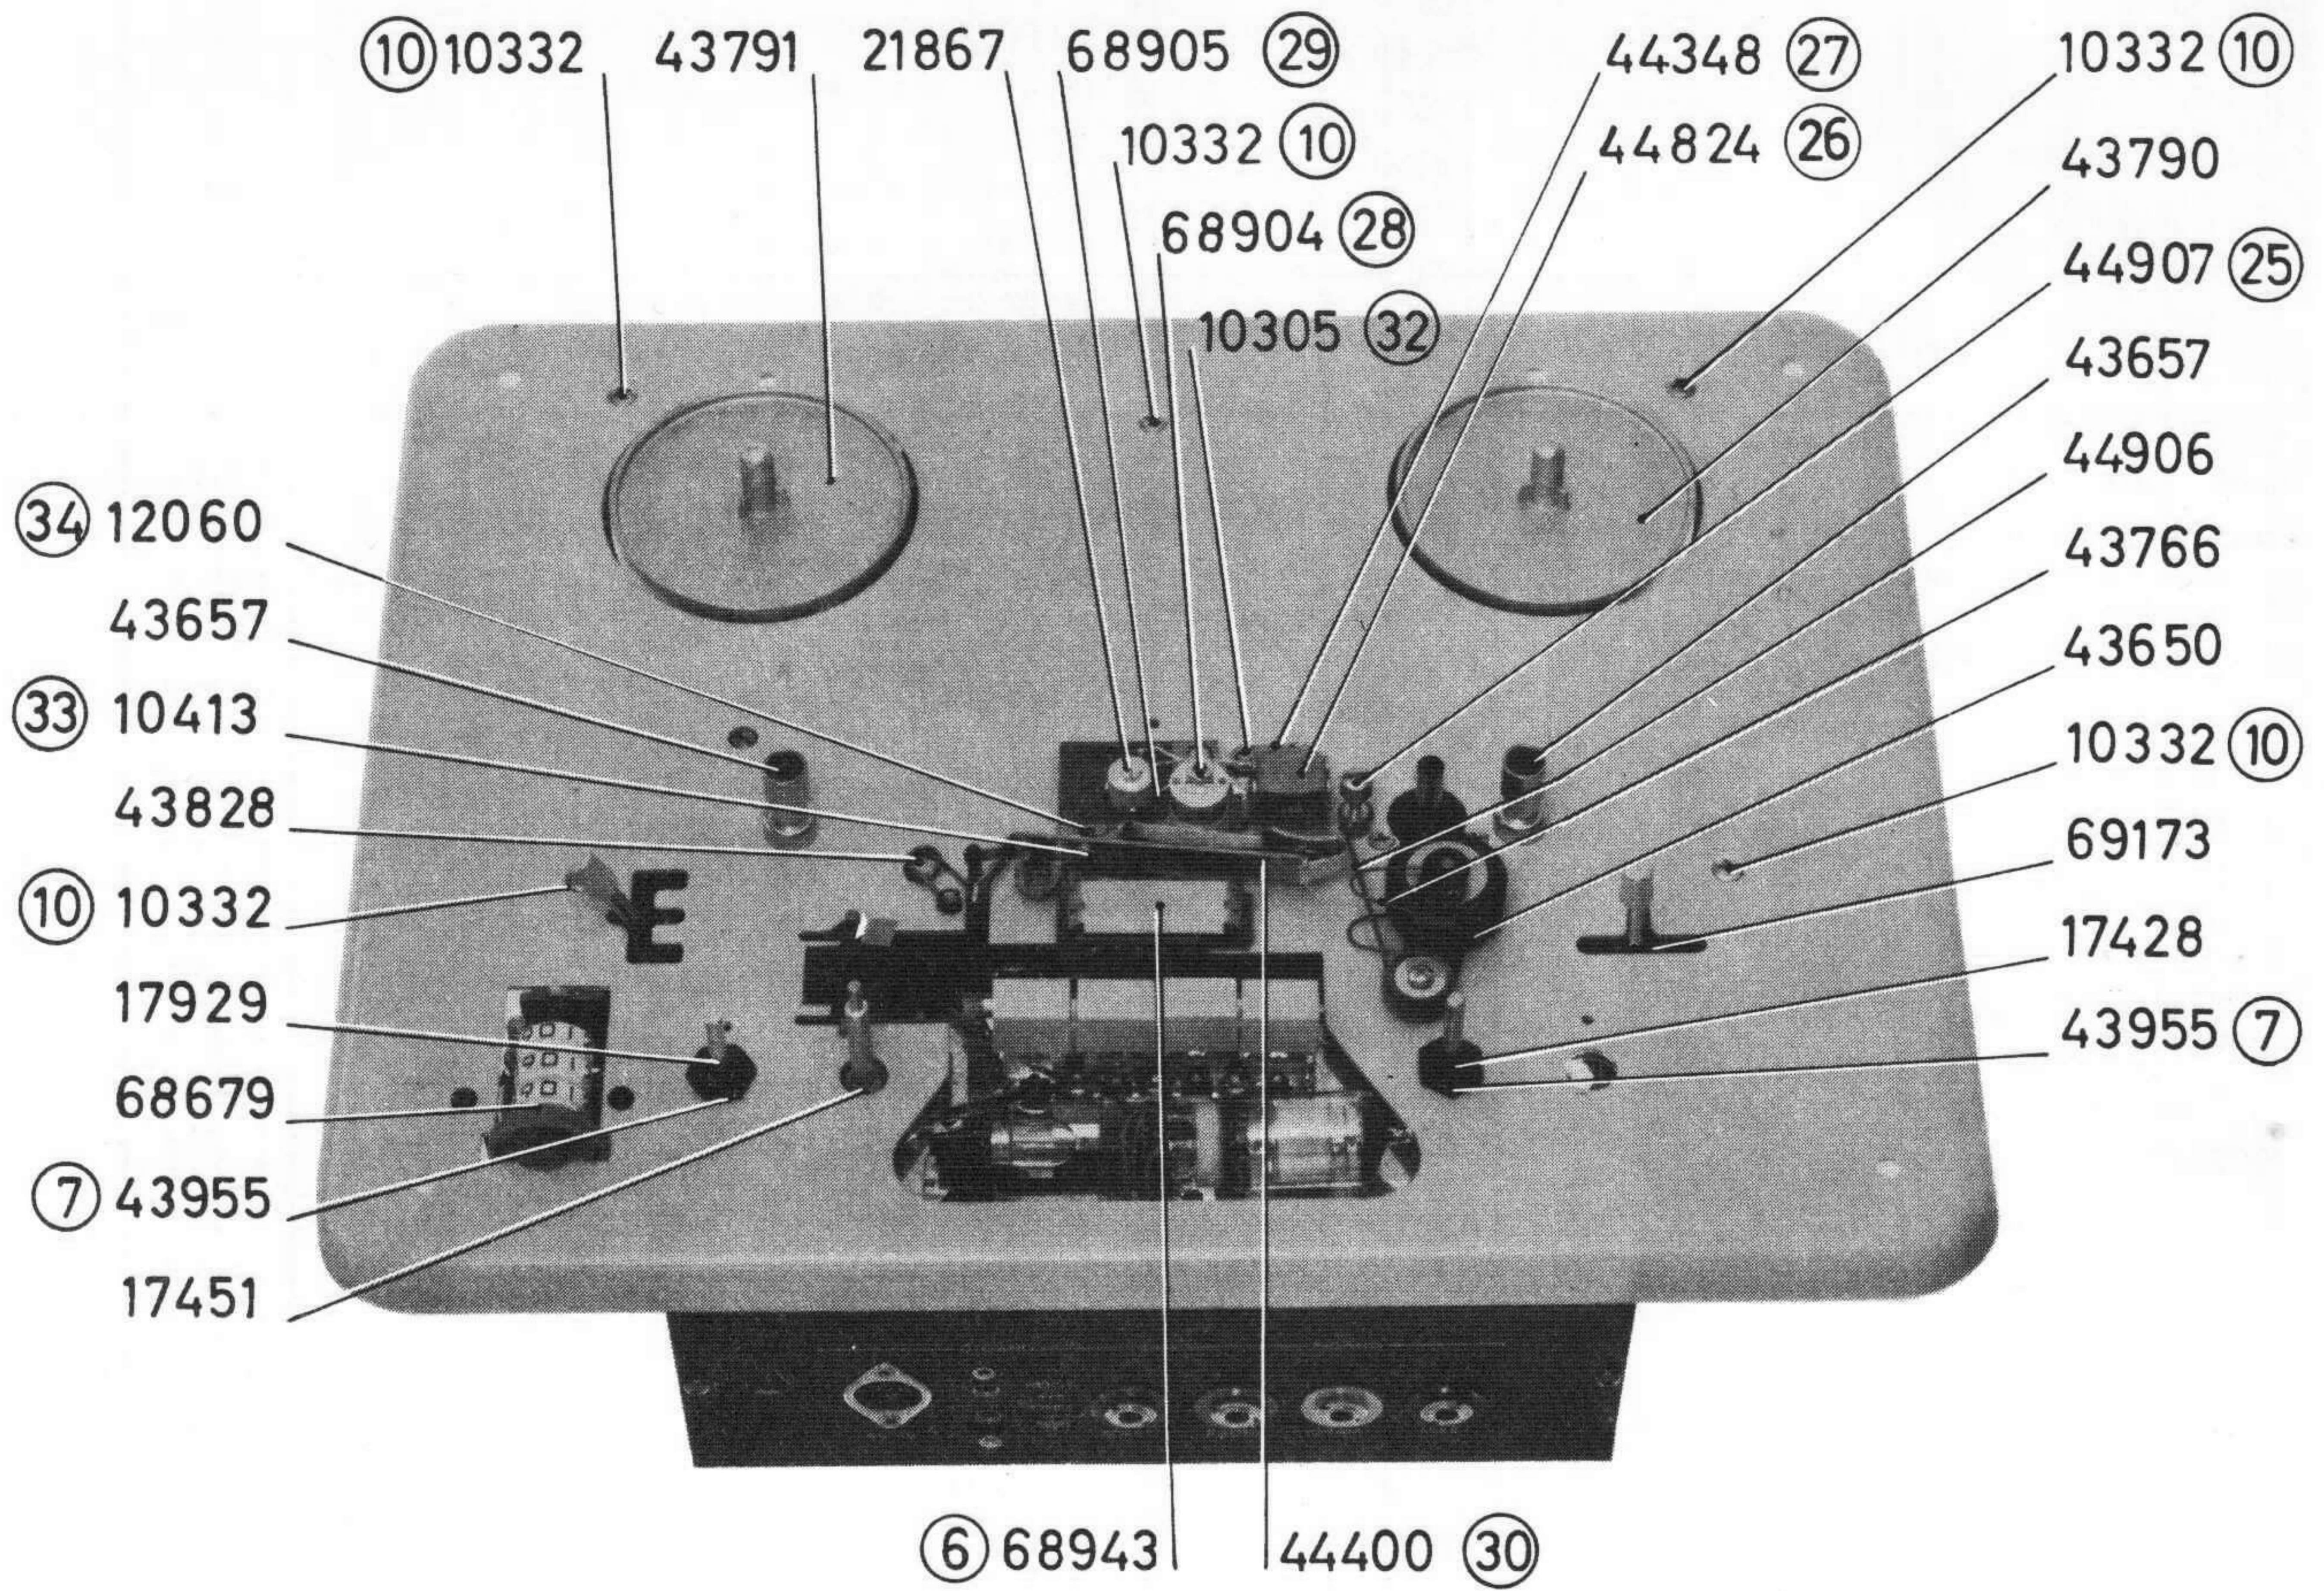

Fig. 2
4. BORTTAG UTLÖSNINGSTRÅDEN (5) VID TAPPEN. SE FIG. 2.
5. BORTTAG ANSLUTNINGSKONTAKTEN (6) FRÅN HUVUDENA. SE FIG. 2.
6. BORTTAG DE TVÅ MUTTRAR (7) SOM FASTHÅLLER FÖRSTÄRKAREN I BASPLATTAN. SE FIG. 2.
10. BORTTAG DE FEM KRYSSKRUVARNA (10) PÅ BASPLATTAN. SE FIG. 2.
- A) DEN JUSTERBARA BANDSTYRNINGEN (25) INSTÄLLES I HÖJDLED, SÅ ATT TONBANDET PASSERAR RAKT GENOM SAMTLIGA BANDSTYRNINGAR UTAN ATT PÅ NÅGOT STÄLLE TVINGAS VARE SIG UPP ELLER NED. SE FIG. 2.
TONHUVUDET (26) JUSTERAS I HÖJDLED, SÅ ATT DESS ÖVRE KÄRNPLÅT KOMMER ATT LIGGA PÅ SAMMA HÖJD SOM TONBANDETS ÖVRE KANT. DESSUTOM TILLSER ATT HUVUDETS FÄSTPLÅT (27) KOMMER PARALLELLT MED BASPLATTAN. MAX. AVVIKELSE 0,2 MM. SPALTVINKELN INJUSTERAS MED TILLHJÄLP AV TESTBAND. SKRUVEN (32) JUSTERAS, SÅ ATT MAXIMAL UTSIGNAL ERHÅLLES VID AVSPELNING AV TESTBANDET. SE FIG. 2.
RADERHUVUDET (28) JUSTERAS, SÅ ATT TONBANDET PASSERAR RAKT GENOM HUVUDET UTAN ATT TVINGAS VARE SIG UPP ELLER NED. FÄSTPLATTANS (29) FRÄMRE OCH BAKRE DEL SKALL LIGGA PÅ SAMMA HÖJD FRÅN BASPLATTAN. MAX. AVVIKELSE 0,2 MM. SE FIG. 2.